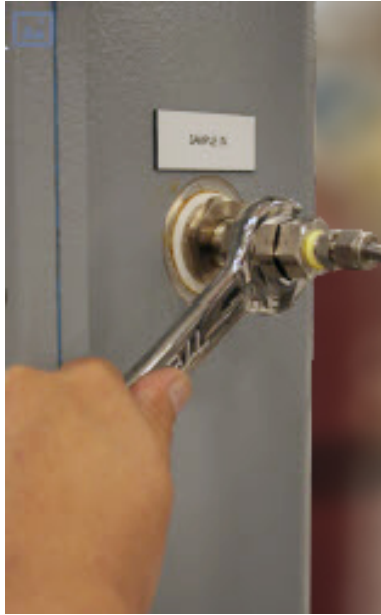

Figure B-21 Removing the flame arrestor
6. Remove the flame arrestor using a 7/8 in. wrench. Refer to Figure B-21.